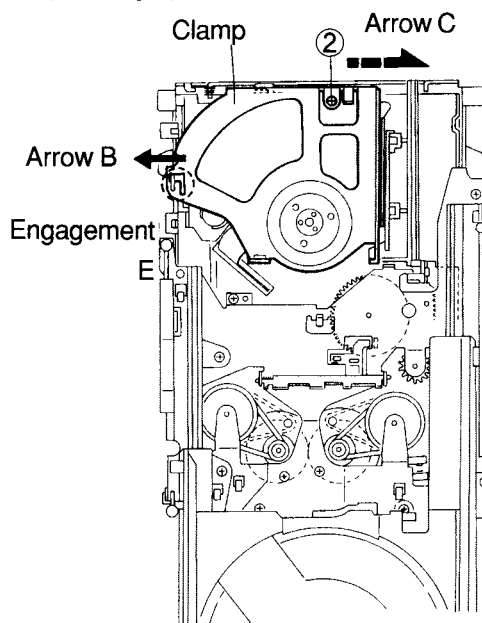

Fig.3
- 5.Remove the one screw 2 retaining the clamber (See Fig.3).
- 6.After moving the clamber in the arrow B direction and shifting it in the arrow C direction, take it out from the engagement section B(See Fig.3).